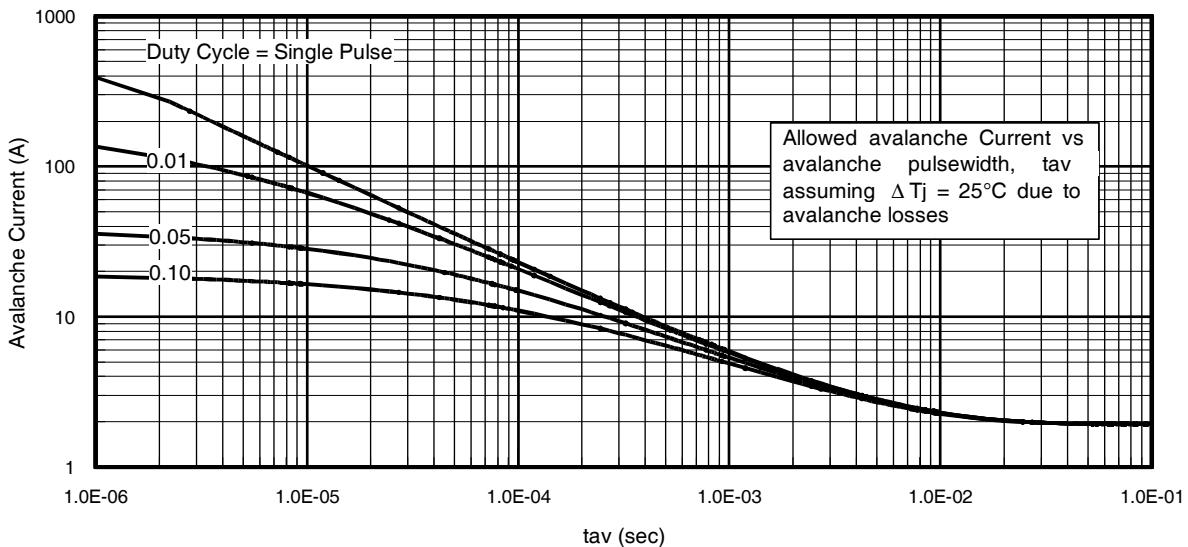

Fig 15. Typical Avalanche Current Vs.Pulsewidth
7. $\Delta T = \text{Allowable rise in junction temperature, not to exceed } T_{jmax} \text{ (assumed as } 25^\circ\text{C in Figure 15, 16).}$